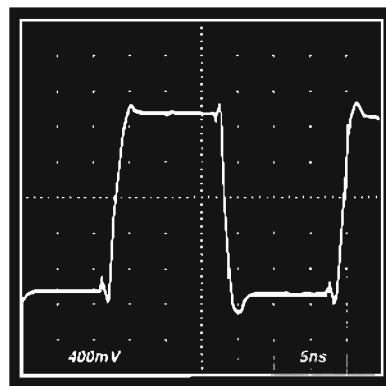

Figure 2. Transient response of the AD8001 for a 2-V output step at a gain of +2.
**Excellent dynamic specs and low distortion:** Figure 2 shows the device's fast, clean, non-ringing response for a 2-V square-wave output at gain of +2; it slews typically at 1000 V/ $\mu\text{s}$  (800 minimum). At gain of  $-1$ , it settles to within 0.1% in 10 ns, with a typical slew rate of 1200 V/ $\mu\text{s}$ . The AD8001 has the lowest distortion of any amplifier running on 50 mW of power:  $-65$  dBc at 5 MHz. In addition, its SFDR is  $-66$  dB at 5 MHz, and 3rd-order intermodulation-distortion intercept (see page 5) is 33 dBm at 10 MHz. The AD8001 is an excellent buffer for A/D converters.